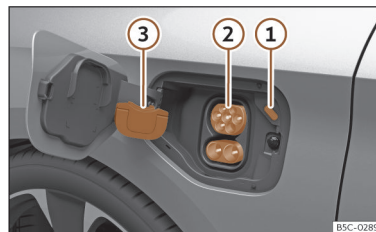

Fig. 61 Behind the battery charging cover on the rear right-hand side.
- Remove the protective cap and hang it on the hook >>> **Fig. 61 ③**
- Plug the charging station's charging connector into the charging socket >>> **Fig. 61 ②**
The LED (charging process indicator) of the charging socket flashes or flashes white >>> **Fig. 61 ①** >>> page 83
The charging process indicator on the charging socket ① flashes green >>> **Fig. 61.**
- Tap the **Stop charging** function button on the infotainment system screen. The charging process indicator located next to the charging socket ① lights up white >>> **Fig. 61.** The charging connector is unlocked.
- Place the protective cap on the charging socket's lower connection ③ >>> **Fig. 61**